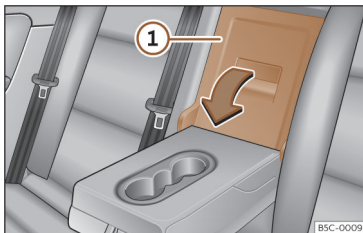

Fig. 192 On the rear seat backrest: opening the tailboard.
- Pull the release lever in the direction of the arrow and push the tailboard cover >>> Fig. 192 ① down and forwards.